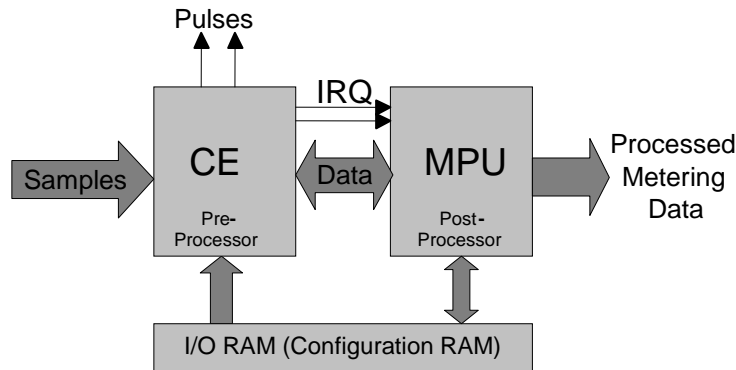

Figure 26: MPU/CE Data Flow
The data flow between the Compute Engine (CE) and the MPU is shown in Figure 26. In a typical application, the 32-bit CE sequentially processes the samples from the voltage inputs on pins IA, VA, IB and VB, performing calculations to measure active power (Wh), reactive power (VARh), A^2h and V^2h for four-quadrant metering. These measurements are then accessed by the MPU, processed further and output using the peripheral devices available to the MPU.
Figure 26 illustrates the CE/MPU data flow.